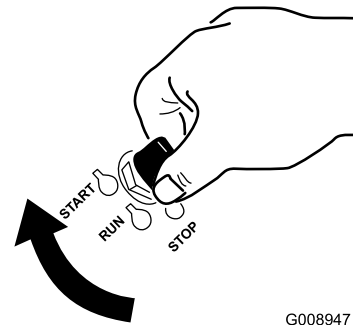

Figure 17
1. Turn the ignition key to the START position (Figure 17).